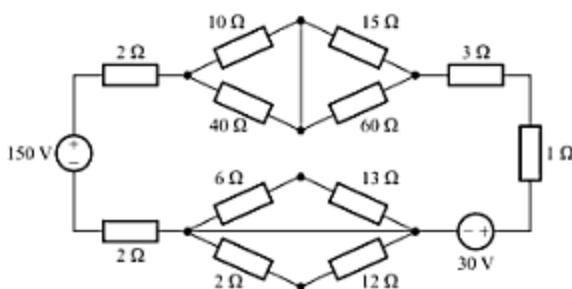

Fig. A-114
- A-81. Use both resistance and source combinations, as well as current division, in the circuit of Fig. A-114 to find the power absorbed by the 3-Ω, 12-Ω and 15-Ω resistors.